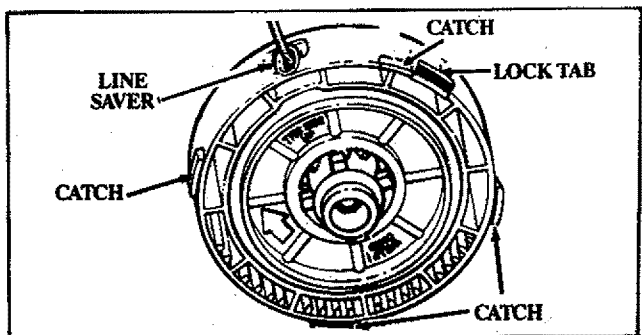

Figure 20
- e. Make sure the line saver is in place and installed correctly. Insert the end of the line in the line saver as shown in Figure 20. Place spool in housing. Press spool down. Turn and lock spool under lugs on drive gear.
- f. Replace the tap button; press lock tab and install the lock ring. Turn lock ring clockwise  and fasten under all four catches on the housing. Figures 20 & 21.